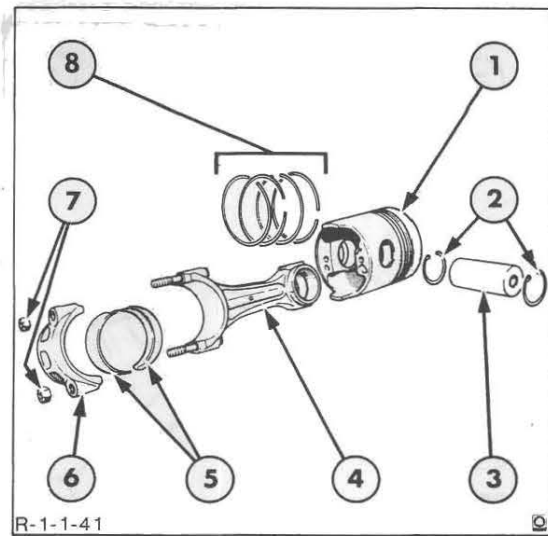

Figure 39
3. Identify each piston and rod for reassembly, Figure 39